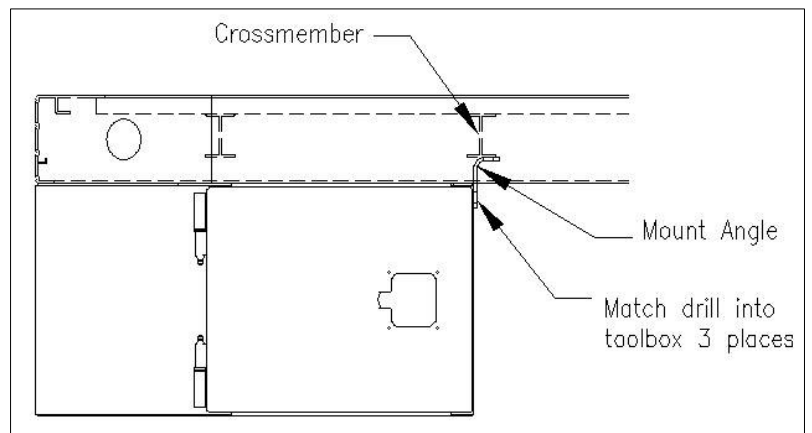

Figure 7 - Side View
4. Match drill 3 $\frac{25}{64}$ " holes from mount angle into toolbox as shown in figure 7. Install and fasten hardware.